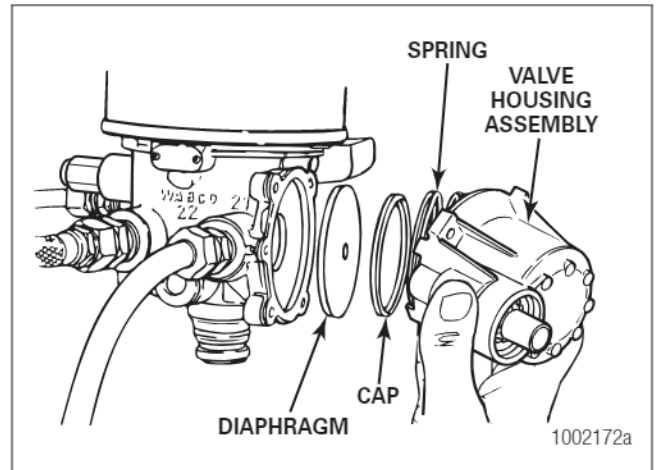

Figure 3.12
6. Install the new spring and cap with the cap lip facing out. Install the valve housing assembly with the new lubricated O-ring and filter over the orifice. Install the new mounting bolts and tighten to 53 in-lb (6 N•m). Figure 3.12.